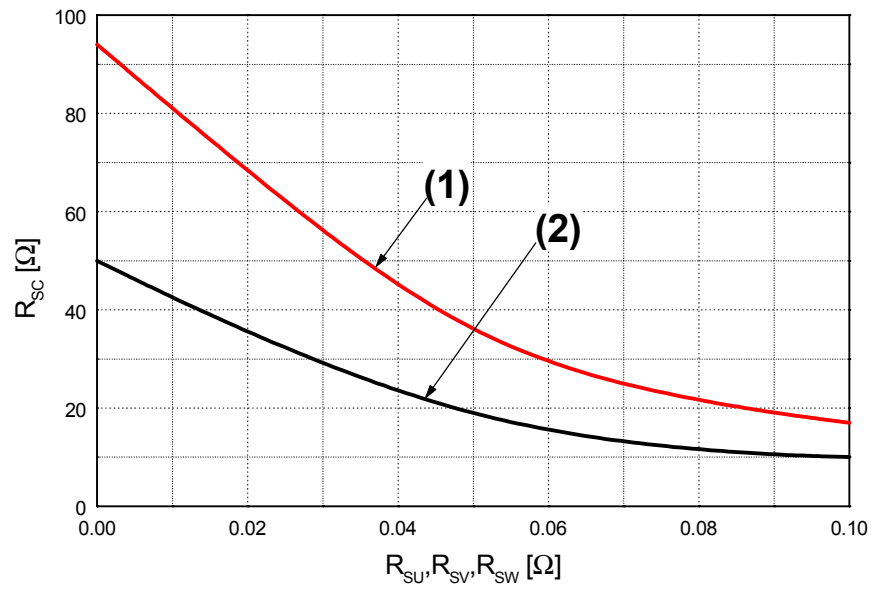

Fig. 6. R_{SC} Variation by change of Shunt Resistors (R_{SU} , R_{SV} , R_{SW}) for Short-Circuit Protection
- Short-circuit current protection is functioning only at the low-sides. It would be recommended that the value of the external sensing resistor (R_{SC}) should be selected around 50 Ω in order to make the SC trip-level of about 22.5A at the shunt resistors (R_{SU}, R_{SV}, R_{SW}) of 0Ω. For the detailed information about the relationship between the external sensing resistor (R_{SC}) and the shunt resistors (R_{SU}, R_{SV}, R_{SW}), please see Fig. 6.